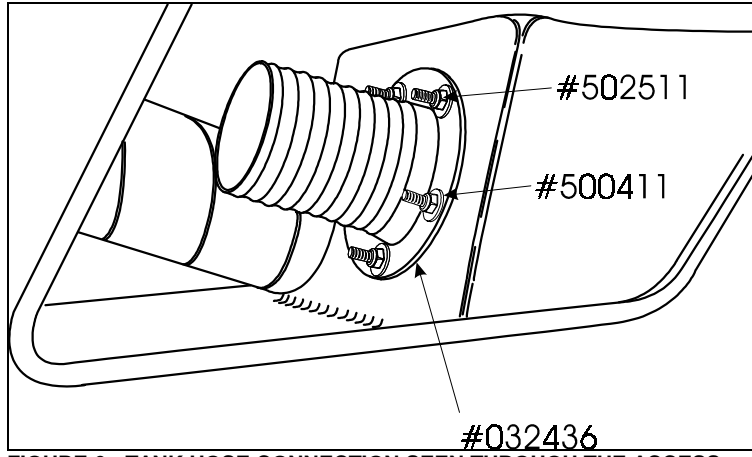

FIGURE 6 : TANK HOSE CONNECTION SEEN THROUGH THE ACCESS PANEL IN BAGGAGE COMPARTMENT
14. Using the flange #032436, fix the ball check valve (figure 6).